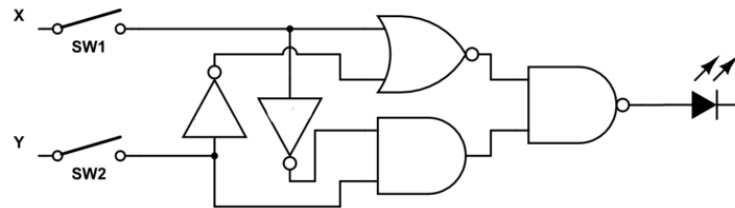

Figure 10: Circuit for activity 1
Implement the hardware from the circuit in Figure 10. The inputs should come from SW(1) and SW(2) and the output should be shown on any of the available LEDs. Use the implemented circuit to test and create a truth table with your results and place it within a comment in the program file.